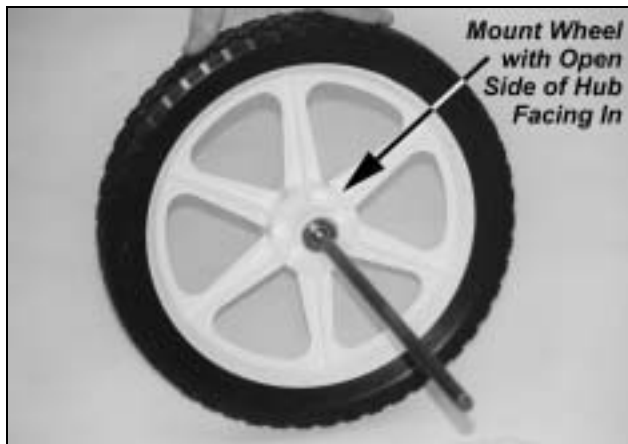

Figure 3
2. Mount one wheel on the axle with the open portion of the hub facing in toward the frame (*Figure 3*).